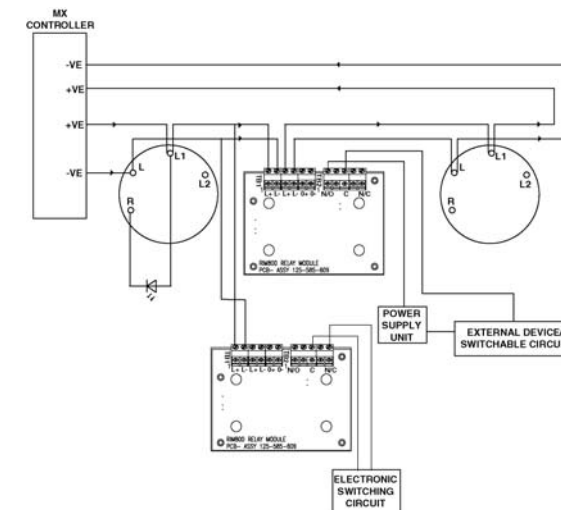

Fig. 3 EV-OP Simplified Wiring Diagram
- 3) See Figure 3 for **EV-OP** Simplified Wiring Diagram.